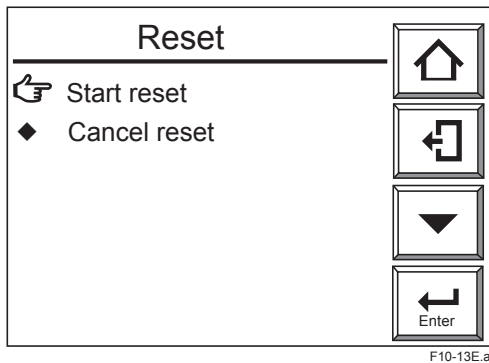

Figure 10.13 Reset Display
- (1) Press the [Setup] key in the Basic panel display to display the Execution/Setup display.
- (2) Choose "Reset". The Reset display shown in Figure 10.13 appears.
- (3) Choose "Start reset" and then press the [Enter] key to reset the equipment and the equipment will then be in its warm-up state.